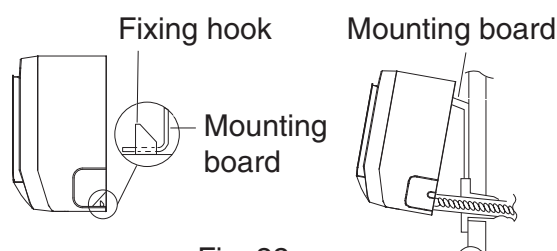

Fig. 22
3. Hang the mounting slots of the indoor unit on the upper tabs of the rear panel and check if it is securely seated on the rear panel. (As show in Fig.22)